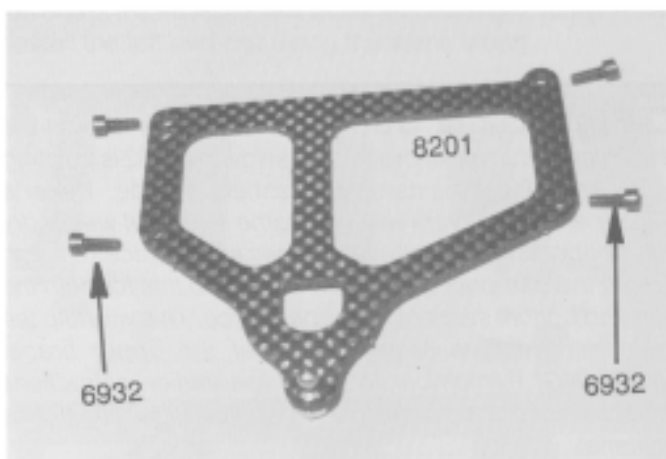
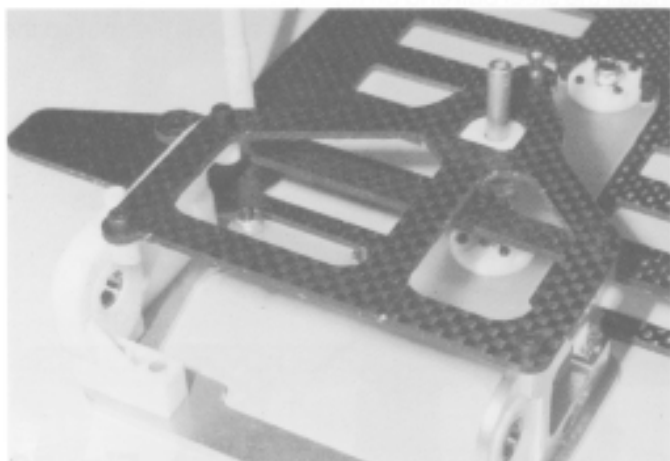

Fig. 34
Fig. 35
□ **Figs. 34 & 35** In bag 5 you will find four #6932 4-40 x 5/16" SHCScrews. Use them to mount the #8201 upper rear brace to the rear pod assembly. Coat both sides of the brace, where the dampner washers will ride, with some of the #6636 Associated diff lube. When installed, the upper brace will fit over the #8329 upper dampner post. Fig 35 shows the upper brace and mounting screws installed.